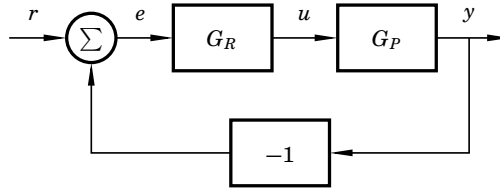
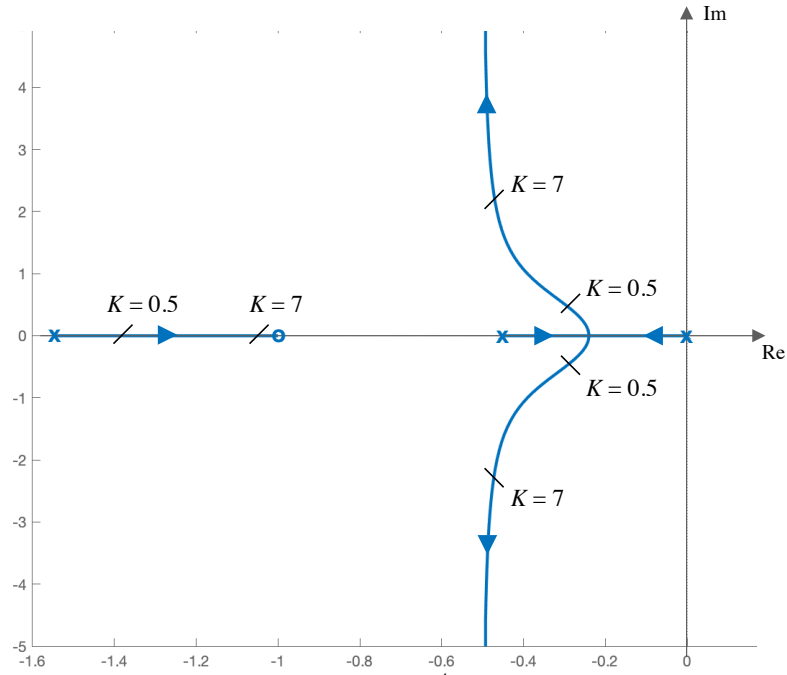
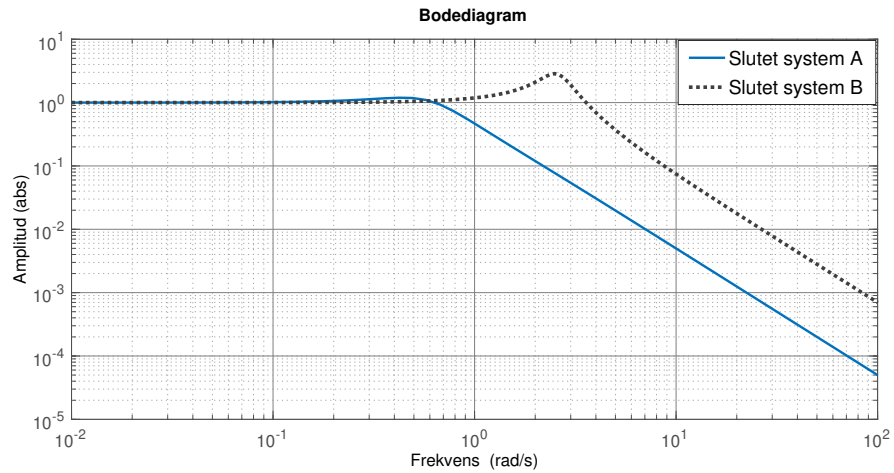

Figure 3: Simple feedback loop.
Figure 4: Root locus for problem 3. Two particular values of K are indicated on the root locus.
Figure 5: Bode plot (amplitude plot) for the *closed-loop* system in Problem 3. One of these corresponds to $K = 0.5$ and the other $K = 7$.
3. The process $G_P(s)$ is connected in feedback with the P controller $G_R(s) = K$ as depicted in Figure 3. One is interested in how the closed-loop system is affected by the choice of K . Therefore, one has drawn a root locus, shown in Figure 4. For the particular choices $K = 0.5$ och $K = 7$ one has also drawn the amplitude curves of the Bode plots for the *closed-loop* system, see Figure 5. Answer the following questions and motivate your answers.
- Pair the respective Bode plot in Figure 5 with the right value of K , that is, $K = 0.5$ or $K = 7$. (1 p)